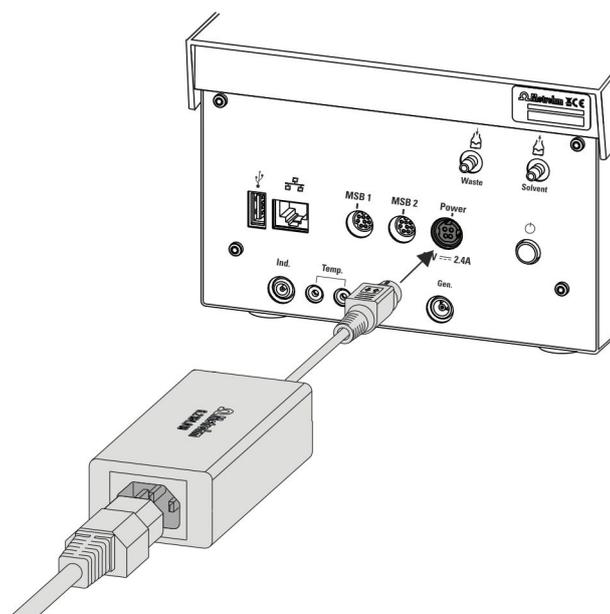

Figure 1 Connecting the power supply unit
- 1 Connect the plug of the external power supply unit with the power socket of the Coulometer (see figure 1, page 3).